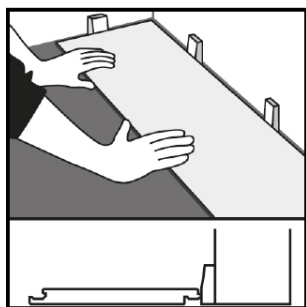

FIG 1
- Starting with a full plank/tile along the wall, calculate how many widths there are across the room. If this means there will be a row of narrow planks/tiles along the opposite wall, cut the first row accordingly. Install this product with the tongue side/cut edge facing the wall. Install 5 mm spacers between the plank/tile and wall (Fig. 1).